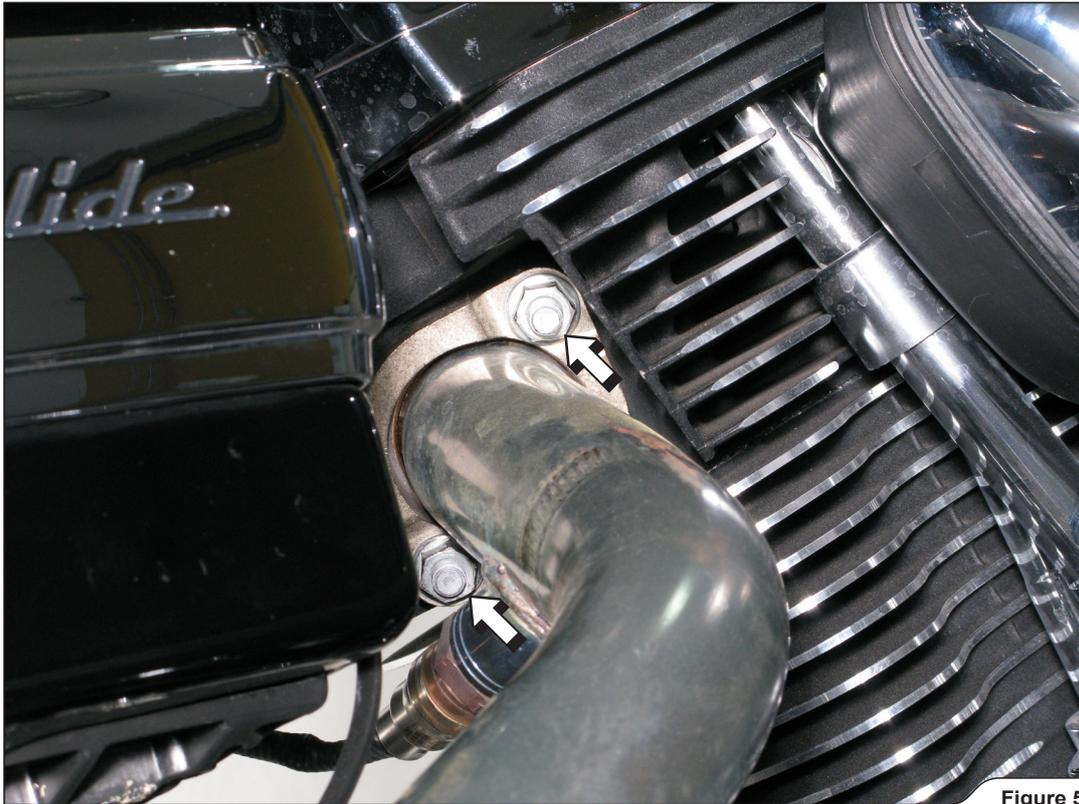

Figure 5
5. Loosen the rear header's flange nuts, so the position of the header is possible to adjust later on (Figure 5).